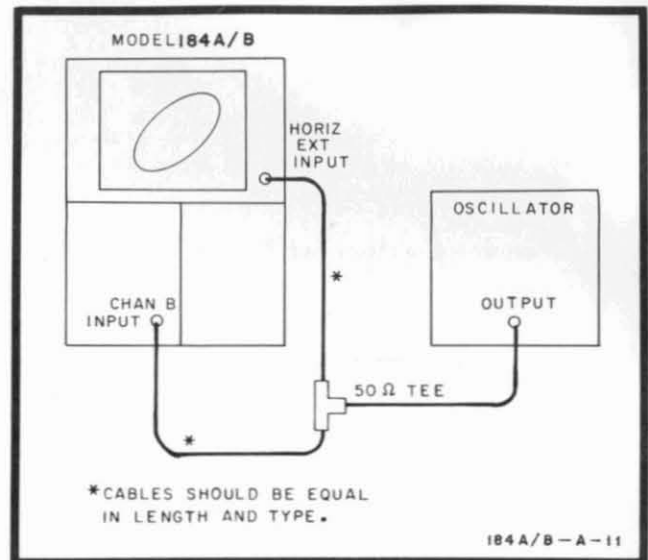

Figure 5-12. Phase and Compensation Adjustment
b. Connect 10-kHz sine wave output of oscillator to EXT INPUT and to vertical plug-in channel B input (figure 5-12).